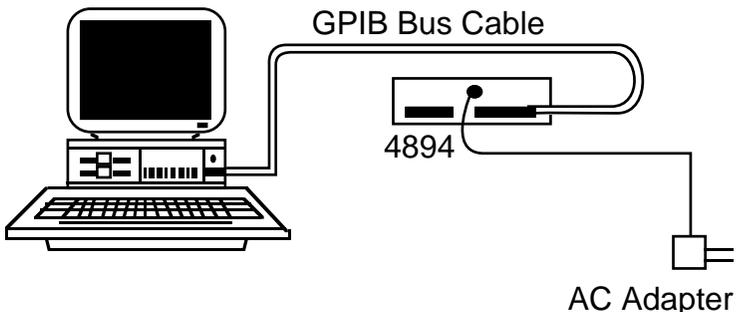

Figure 2-1 4894A Configuration Connections
1. Connect the 4894A to the GPIB controller card in the PC as shown in Figure 2-1. Plug the AC adapter plug into the DC jack on the 4894A's rear panel. Connect the AC adapter to an AC outlet.
1. Connect the unit to the bus controller as shown in Figure 2-1. Use an **Abort**, **REN** or a take control type command to have the bus controller assert **REN**. Then turn the unit on.